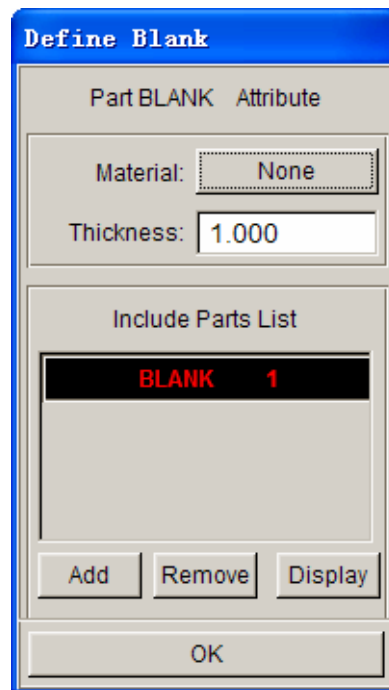

Figure 3.14: Define Blank dialog box
- 3) Click “OK” to return to the Define Blank dialogue window, user can find the selected target part has been added to the Include Parts List. See figure 3.14.